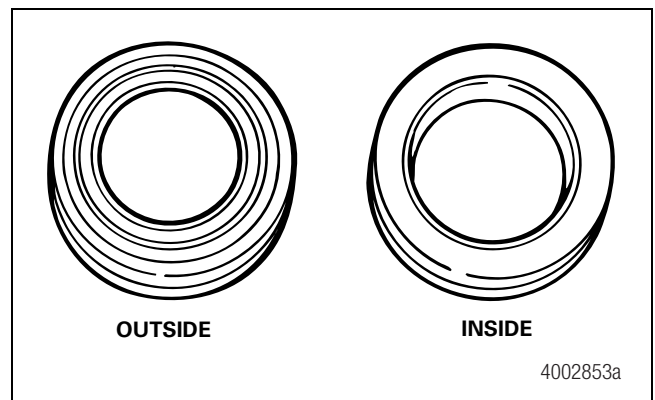

Figure 5.1
4. Place the seal directly over the worm bore with the seal lips outside of the bore and the metal retainer inside of the bore. Figure 5.1. Use a hammer and 1-3/16-inch (30.2 mm) diameter seal driver to install the seal straight into the bore. Figure 5.2. Do not hit the seal after it reaches the bottom of the bore. Damage to the seal will result.